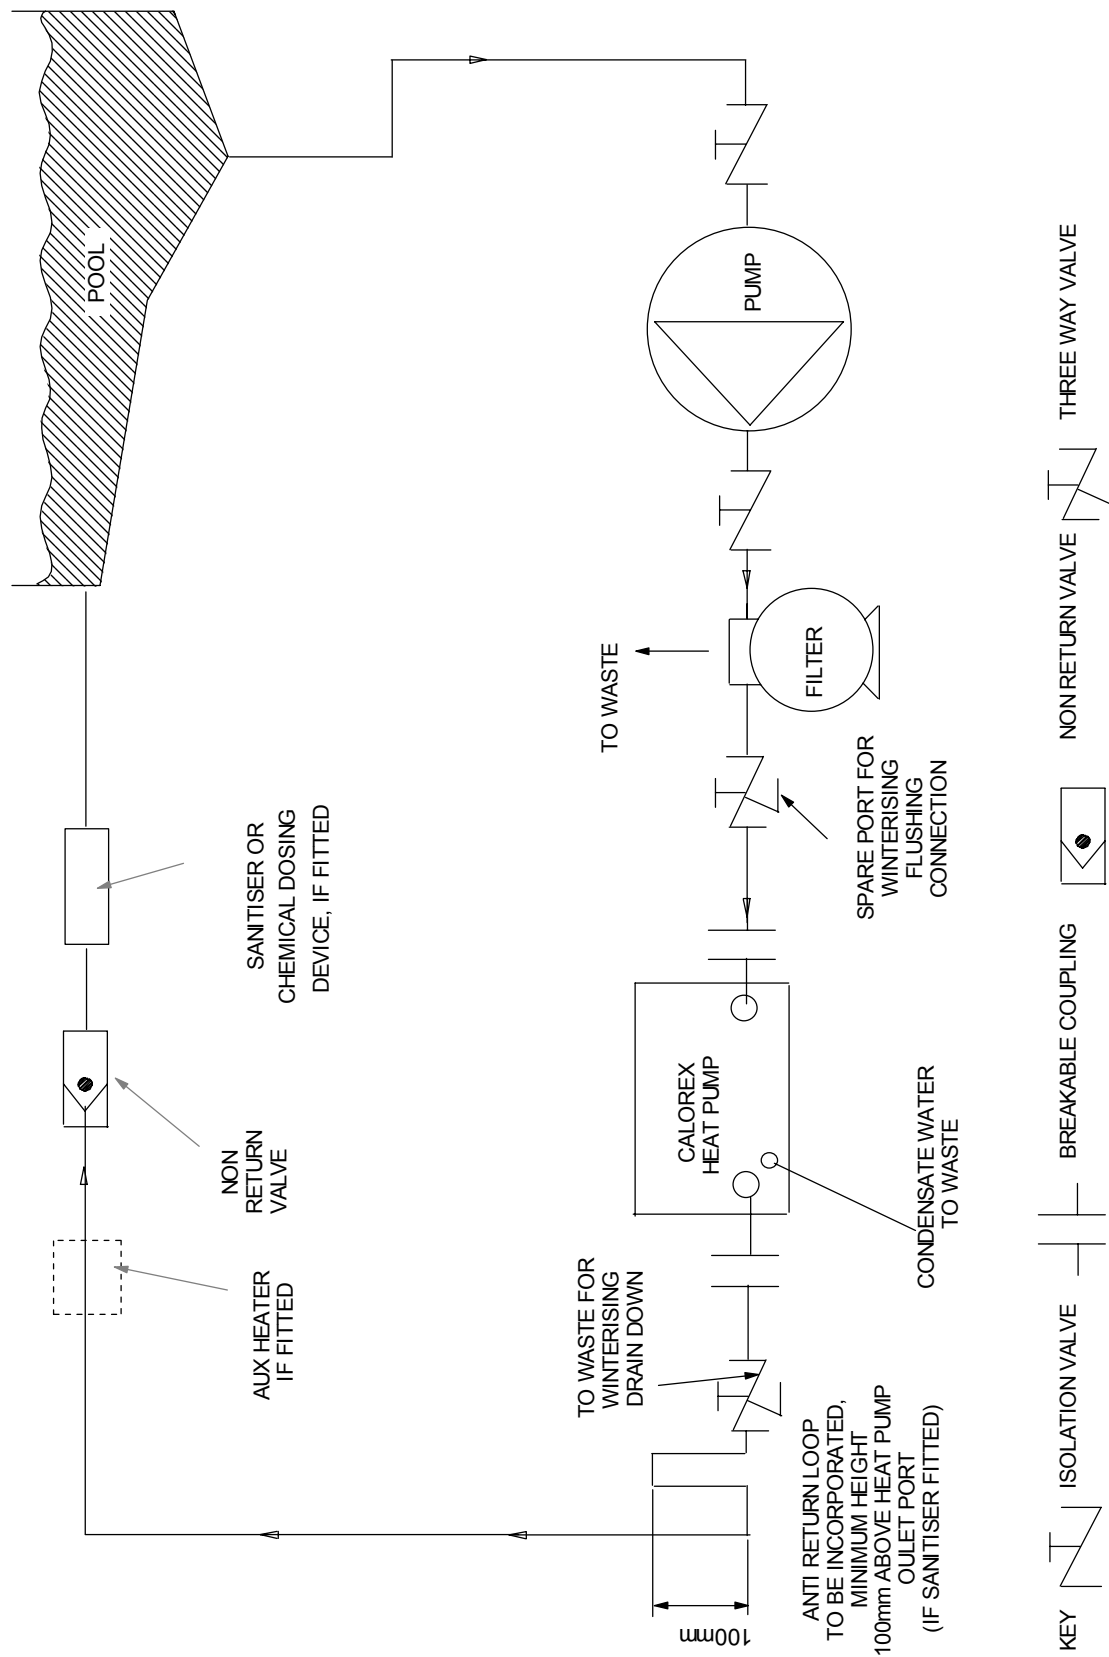

FIGURE 4
- b. The Calorex Pool Heat Pump must be connected after the filter in the return pipe to the pool. If an existing heater is being retained, then the Calorex Heat Pump should be connected between the filter and the other heater. (See figure 4).
1. All Pool Purifying Devices and Chemical Injection Systems to be fitted down stream of heat pump unless installation is as per Filter dosing (See figure 4). This includes the practice of dosing chemicals direct into Skimmer Basket, which results in concentrated corrosive liquids passing over metal components.